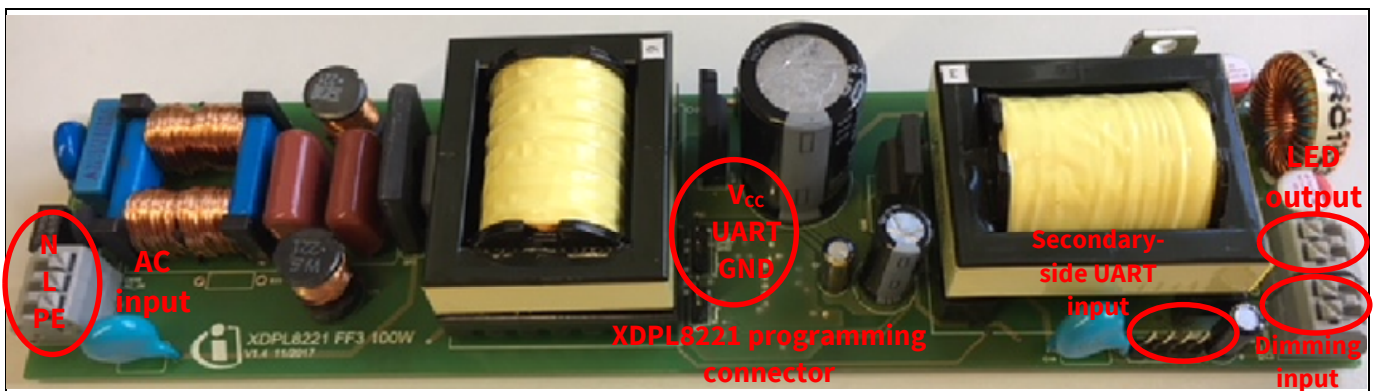

Figure 1 XDPL8221 100 W reference board
*Note: The 100 W reference design is ready for evaluation without the need for any pre-programming by the user, as the XDPL8221 chip on the PCB has already been burned with the default full set of working configuration parameters. Please connect the AC input, LED output and dimming input as shown in **Figure 1**, for the test set-up. Once the XDPL8221 IC controller on the reference board is changed to a new one, the 100 W reference board parameters must be burned again because the default parameters in the XDPL8221 are for the 50 W reference board.*